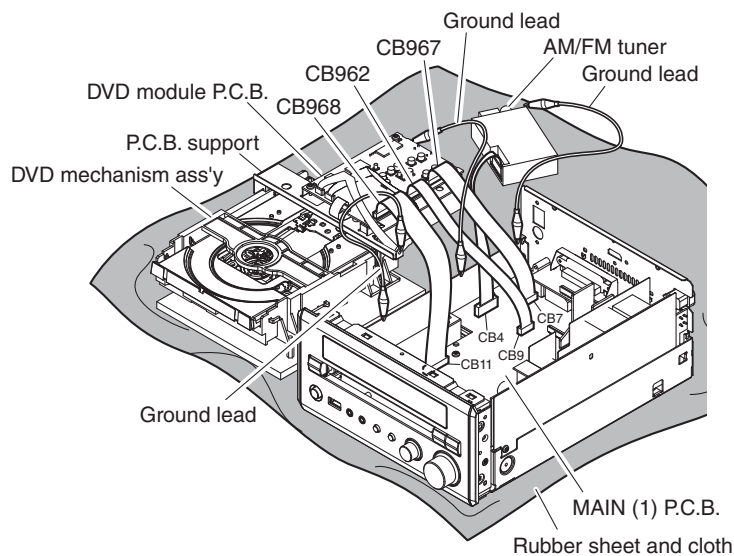

Fig. 3
- Spread the rubber sheet and the cloth. Then place this unit on the cloth and check it. (Fig. 3)
- Connect the ground point of the DVD module P.C.B., AM/FM tuner and P.C.B. support to the chassis with a ground lead or the like. (Fig. 3)